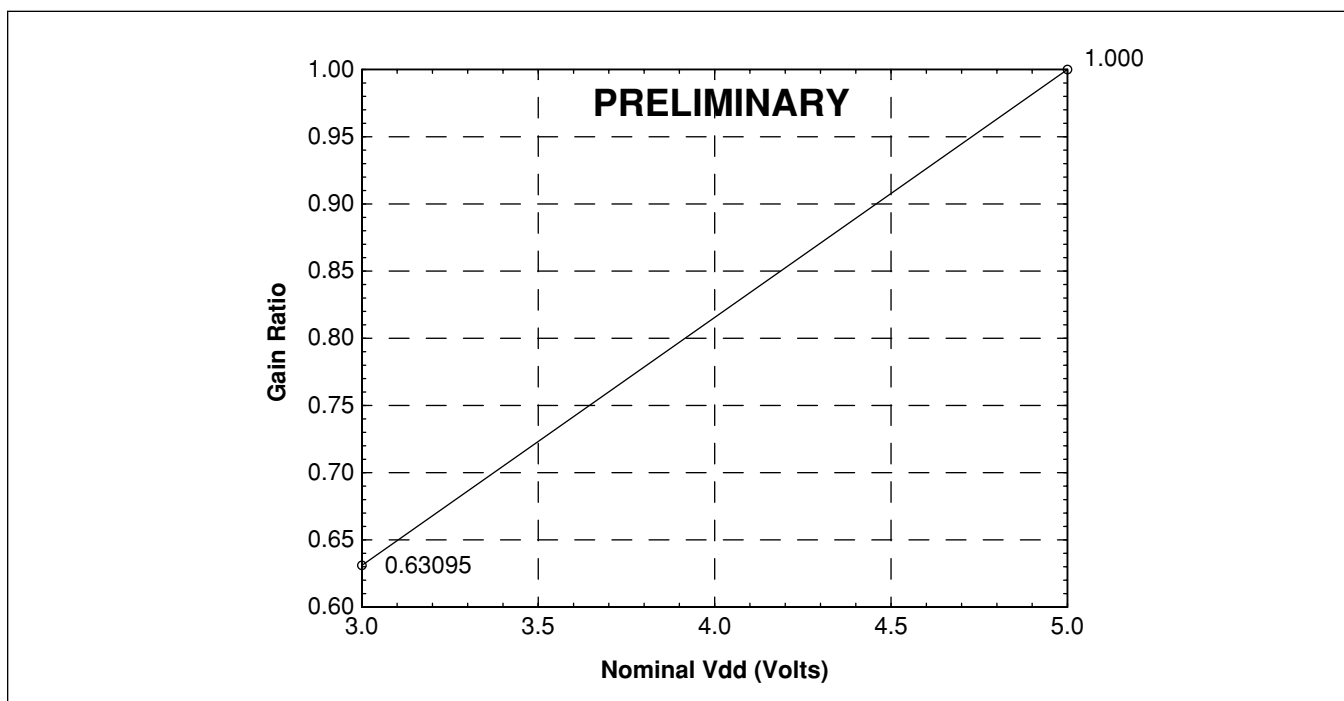

Figure 9 - GS1 and GS2 Gain Ratios as a Function of Nominal Vdd
The MT88E46 is designed to operate from a fixed voltage power supply between 3 and 5V nominal. A $\pm 10\%$ variation from the nominal voltage is allowed. Its FSK and CAS reject levels are proportional to Vdd. When operated at Vdd equals $3V \pm 10\%$, to keep the FSK and CAS reject levels as at $5V \pm 10\%$, and for optimal speech immunity, the GS1 and GS2 op-amp gains should be reduced from those of 5V. Gains for nominal Vdd's between 3 and 5V can be obtained by interpolation between the 3V and 5V values shown in Figure 9.
- For the desired nominal Vdd, use Figure 9 to calculate approximate Av.